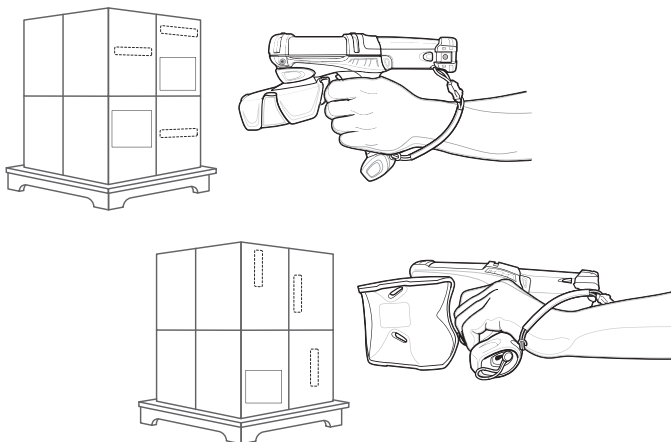

Figure 2-20 RFID Tag Read
2. Aim the mobile computer at the tag and orient the mobile computer horizontally or vertically (depending on the tag orientation, see Figure 2-20).